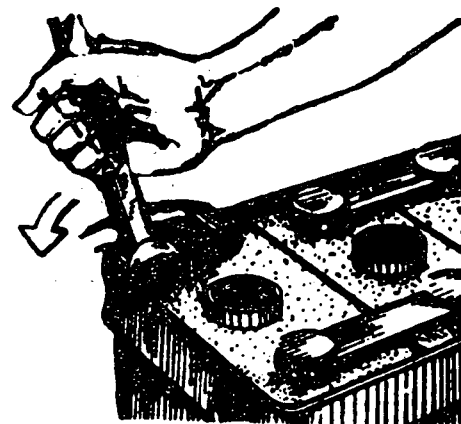

Fig. 1
- c) Loosen nuts and bolts which hold the terminals (Fig. 1).